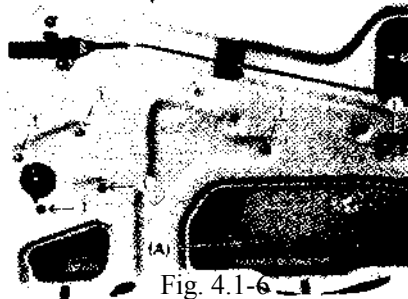

Fig. 4.1-6
- 10) Fixing screw (6 positions) for front door glass regulator. Unscrew the 6 screws, take out the regulator from opening A, and refer to Fig. 4.1-6.